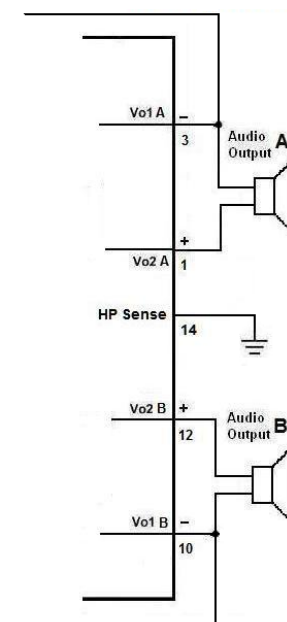

FIGURE 6. Without Headphone Circuit (QFN Type)
As outlined above driving the Speaker (BTL) and Headphone (SE) loads simultaneously using LY8661 is simple and easy. However this configuration will only work if the HP Logic pin is used to control the BTL/SE operation and HP Sense pin is connected to GND(Figure 6).